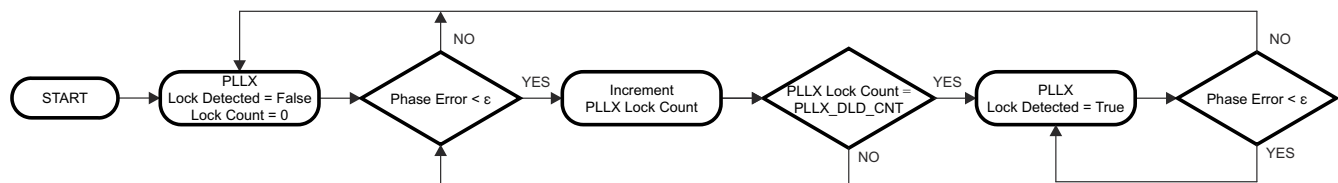

图 8-8. Digital Lock Detect Flowchart
Both PLL1 and PLL2 support digital lock detect. Digital lock detect compares the phase between the reference path (R) and the feedback path (N) of the PLL. When the time error, which is phase error, between the two signals is less than a specified window size (ε) a lock detect count increments. When the lock detect count reaches a user specified value, PLL1_DLD_CNT or PLL2_DLD_CNT, lock detect is asserted true. Once digital lock detect is true, a single phase comparison outside the specified window will cause digital lock detect to be asserted false. This is illustrated in 图 8-8.